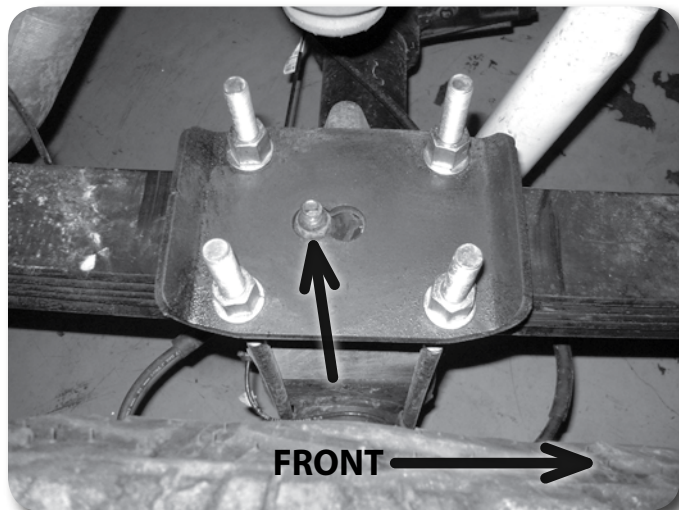

Figure 20
9. Raise the axle to engage the block spring alignment pins. Be certain the leaf center pin aligns with the REAR hole in the new lift block. Position the new u-bolt plate on the top of the spring over the center pin nut. Position the plate so the bolt pattern is shifted forward on the spring. **Figure 20** Fasten the entire assembly with the provided u-bolts, high nuts and washers. Snug but do not torque the u-bolts at this time.